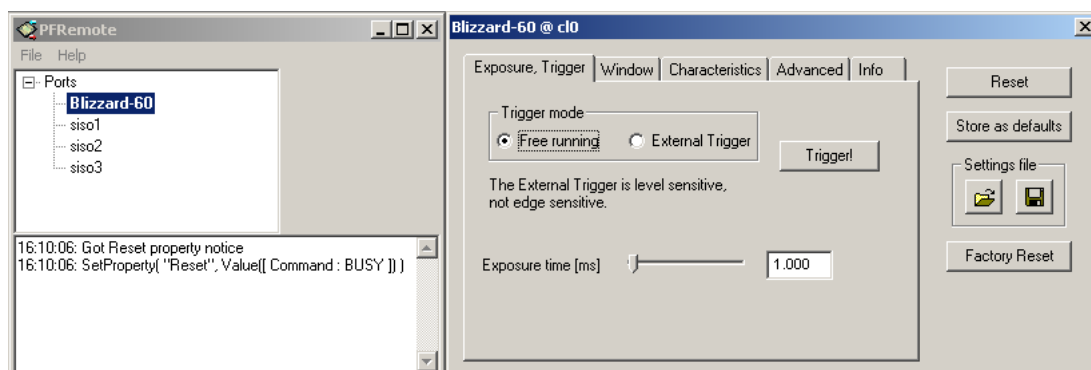

Figure 2.4: PFRemote start window
7. Start the camera software "PFRremote" and choose the communication port USB0 (see Fig. 2.4).